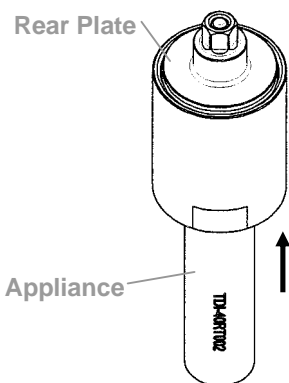

Fig.139
- ② Use the appliance to push out the rear plate from the pulse cylinder seat. See Table 14 in reference to the proper appliance selection. (Fig. 139)